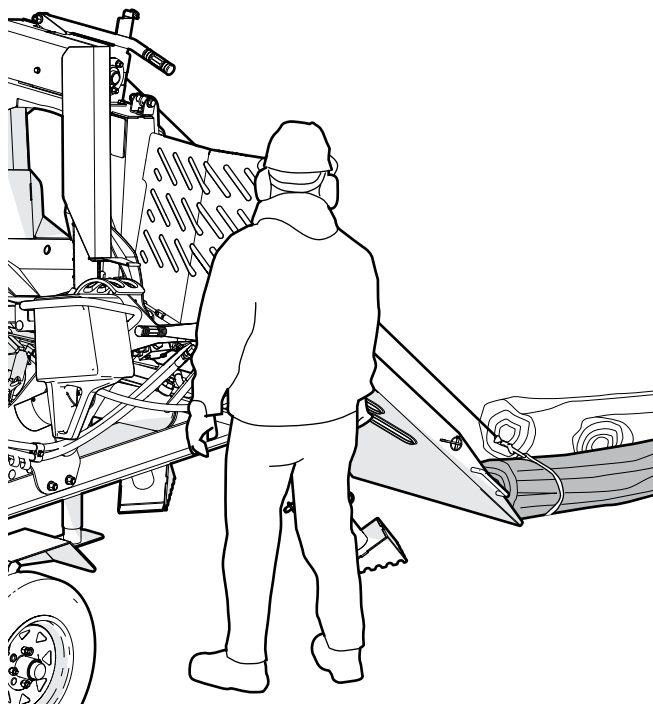

Figure 38—Winch the first log to the machine
1. Winch the first log to the machine. Make sure that the log does not catch on the front edge of the entry chute. See *Figure 38*.